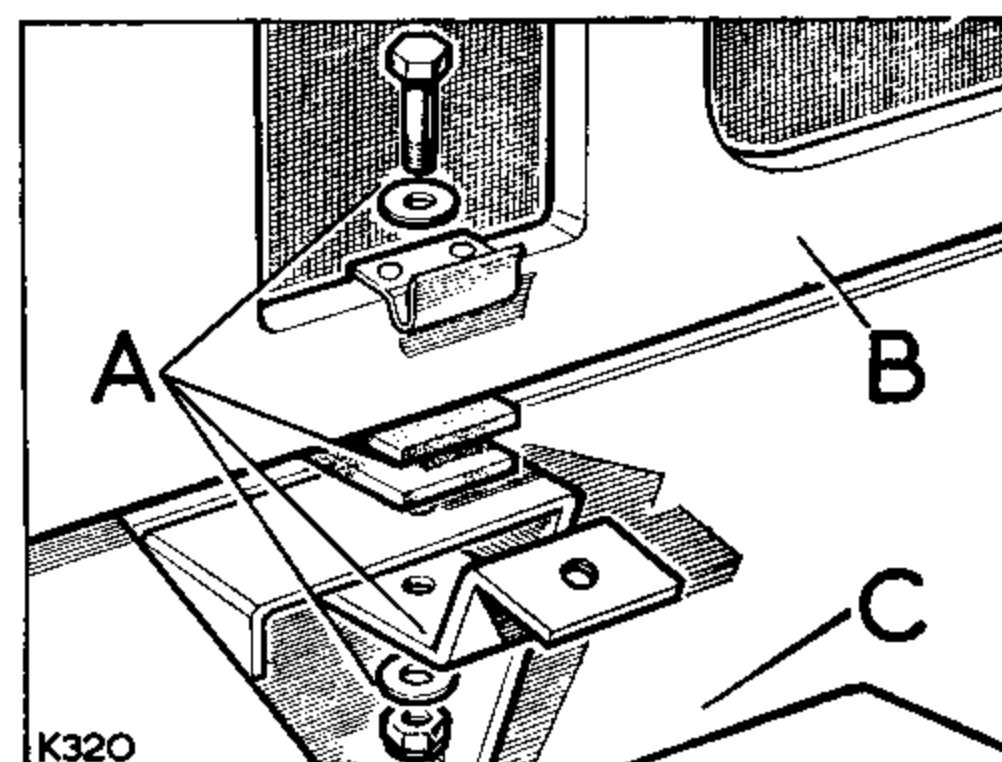

Fig. Q1-10. Fixings at chassis cross member
1. Refit the radiator grille and radiator complete on to the vehicle. Fit the fan blades to the fan pulley before engaging the grille panel fixings. See Figs. Q1-10 and Q1-9 for fixing details.